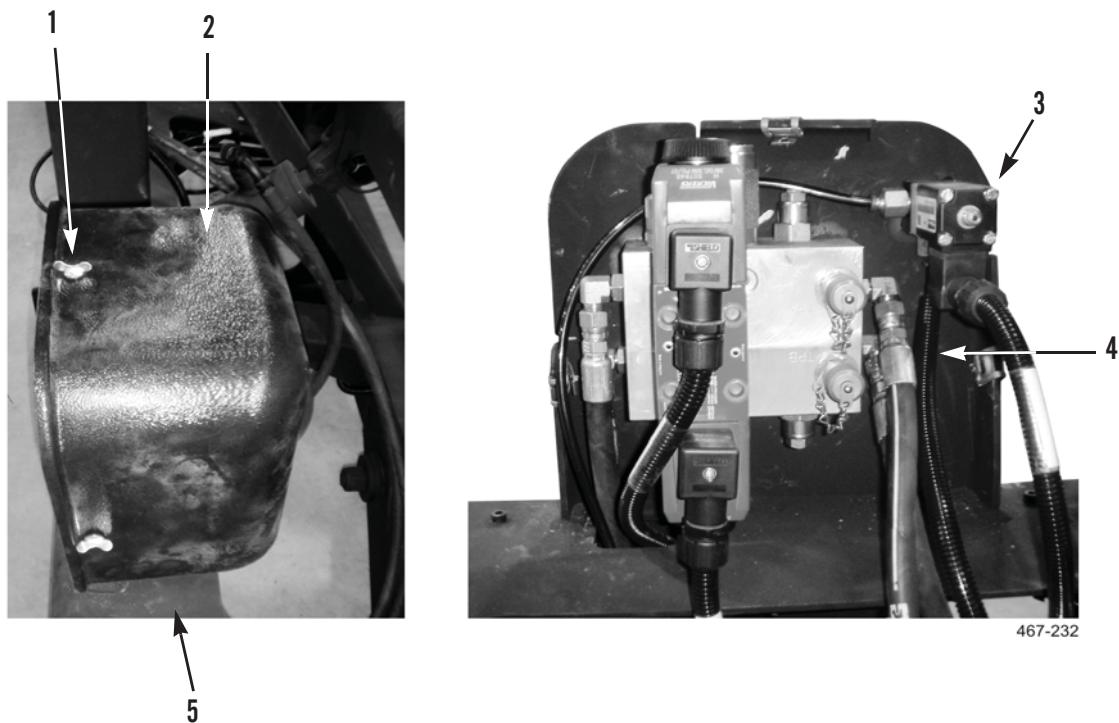

Figure 5. Latch Actuator Hose Removal from Solenoid.
1. Loosen three locking screws (Figure 5, Item 1) and remove solenoid cover (Figure 5, Item 2) from stowage assembly (Figure 5, Item 5).
2. Remove latch actuator hose (Figure 5, Item 4) from solenoid valve (Figure 5, Item 3).